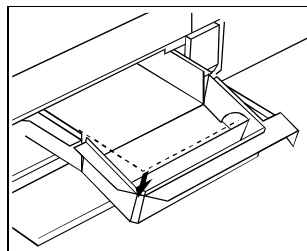

Figure 6-41. Tilting Down the Front of the Cassette
2. Tilt down the front edge of the paper cassette (Figure 6-41) and remove any paper remaining in the cassette.